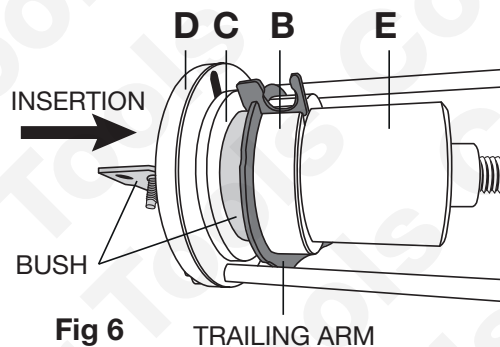

Fig 6
- Assemble the bush and bush tool components on the arm as shown in **Fig 6**. Remember the bush must be pushed in by the press frame support ring (D) and split washer ring (C) in the direction shown.